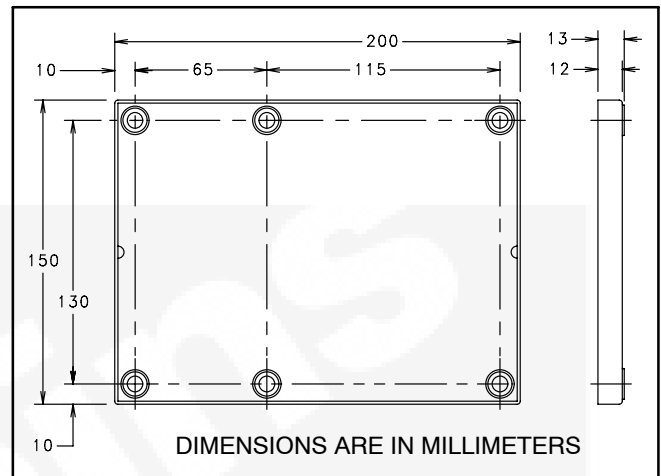

FIGURE 3-15. 1301 CONTROL FOOTPRINT
2. Select a suitable location (see “Mounting Guidelines” on page 3-1) and mount the 1301 control board using M4 hardware. Figure 3-15 shows the control board dimensions. The outside dimensions do not include necessary clearance for wire connections.